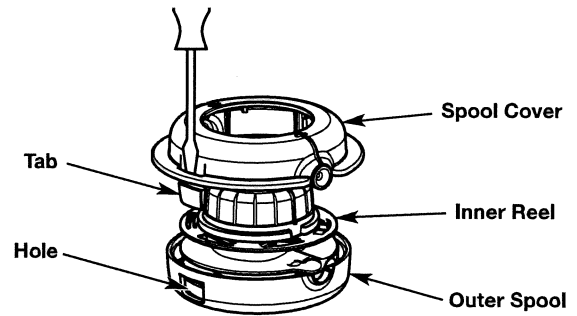

Fig. 23
- c. Gently tilt the screwdriver to unlock the tab from the hole (Fig. 23).
- e. Remove the spool cover (Fig. 23). **DO NOT** attempt to remove any other parts of the cutting head.
- g. Use a clean cloth to clean the inner reel, outer spool and spool cover (Fig. 23).
- h. Align the tabs on the spool cover with the holes on the outer spool (Fig. 23). Push the spool cover onto the outer spool until the tabs securely snap into the holes.